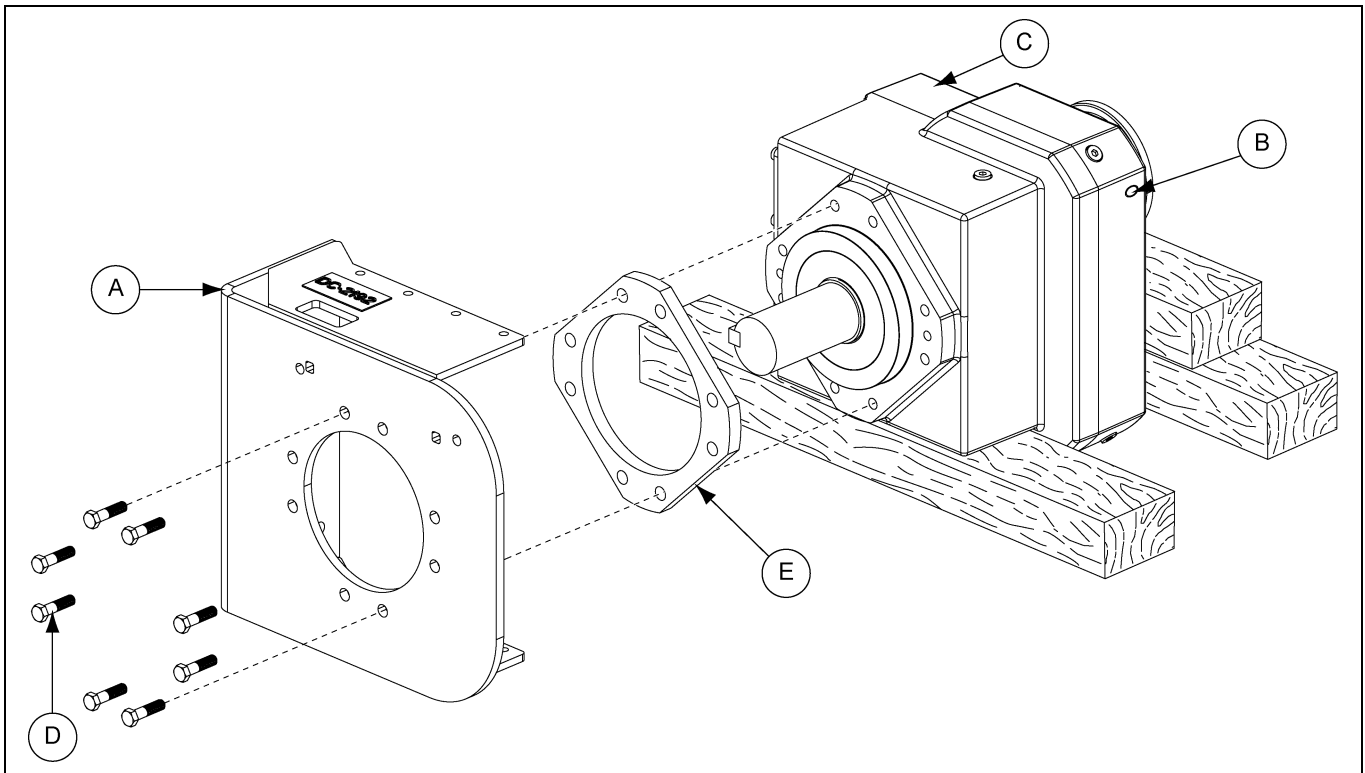

Figure 8C
1. Using the appropriate lifting device, carefully lift and place the gearbox on its side, using blocks to stabilize each end as shown. *(See Figure 8C.)*